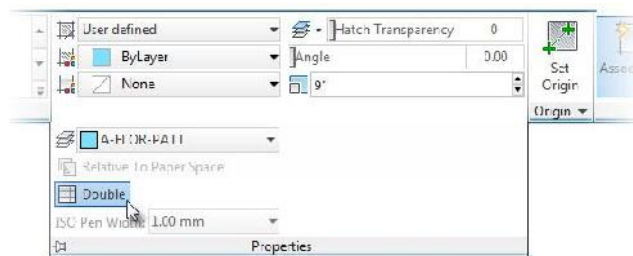

FIGURE 11.19: Defining the hatch pattern
7. In the Hatch Spacing text box, change 1" (1) to 9' (230).
8. Expand the Properties panel and click the Double button (see Figure 11.19).